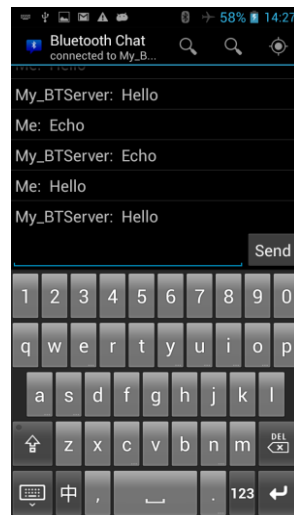

Figure 27 The entered text echoed back from LinkIt ONE
- 3 Now type the content to be sent to LinkIt ONE, and you should see it return back from LinkIt ONE, as shown in Figure 27.